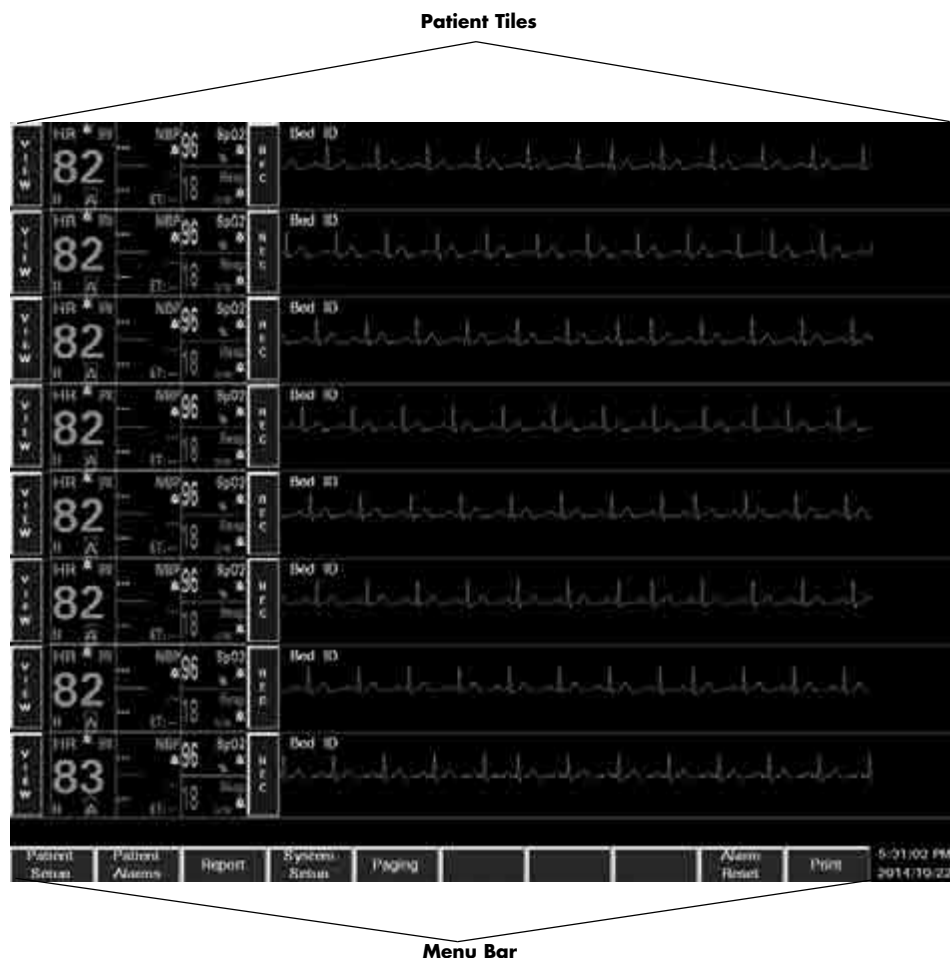
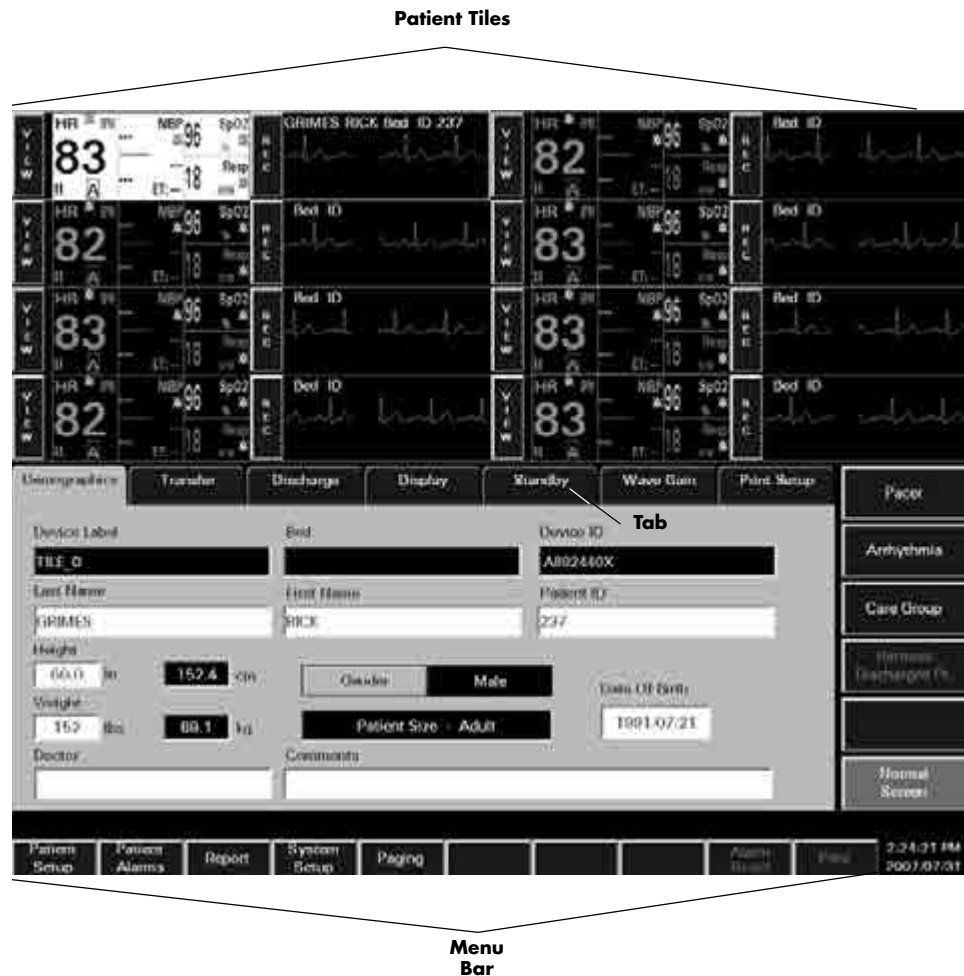

FIGURE 2-1 Full Screen Display (Central Station with Paging Option Installed)
FIGURE 2-2 Split-Screen Display (Central Station with Paging Option Installed)
The full screen display (shown in FIGURE 2-1) includes patient tiles for viewing patient data and a menu bar for navigating the system.
The Panorama Central Station uses a split-screen display (shown in FIGURE 2-2) to allow users to simultaneously enter patient information, and monitor patient data. The top half of the screen displays patient data, while the bottom half of the screen is converted to a work space for entering and modifying patient information.
- Patient Tiles (shown in FIGURE 2-1/FIGURE 2-2)
- Menu Bar (shown in FIGURE 2-1/FIGURE 2-2)
- Tabs (shown in FIGURE 2-2)